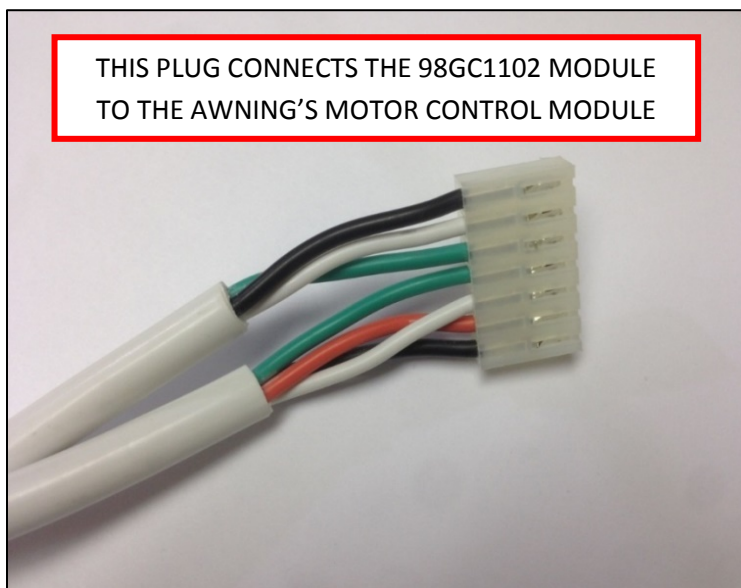

Figure 1
- b) Connect the **98GC1102** to the G-Link Motor controller using the white connector (see figure 1).